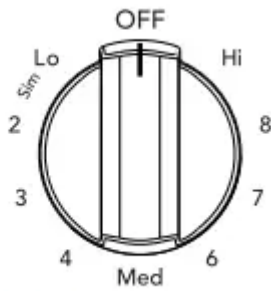

Figure 6: Single element knob
2. Push in and turn the surface control knob in either direction (Figure 6) to the desired setting (refer to the “Suggested radiant surface element settings” in Table 1).
Use the graphics provided as a guide and adjust the control knob as needed (see Figure 6).